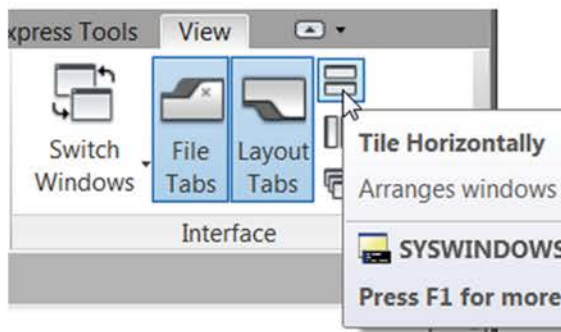
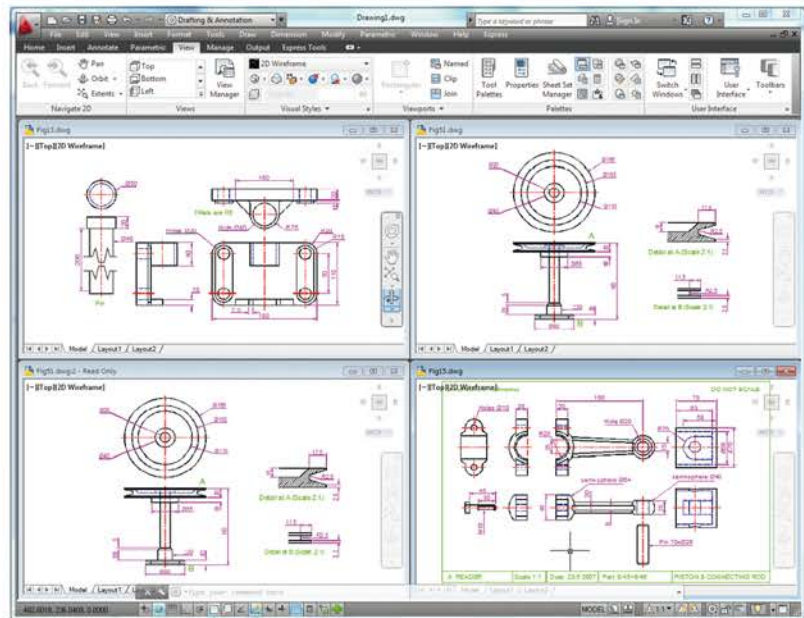

Fig. 14.23 Selecting Tile Horizontally from the View/Interface panel
Fig. 14.24 Four drawings in the Multiple Design Environment
2. In the **View/Interface** panel, *click Tile Horizontally* (Fig. 14.23). The four drawings rearrange as shown in Fig. 14.24.